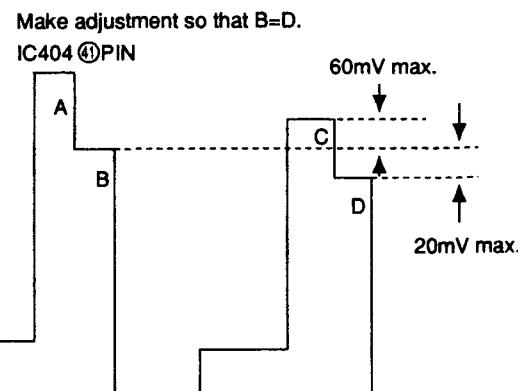

Fig. 5-28
- 2) Connect the probe of an oscilloscope to IC404 ⑪ PIN or TP401.
- 4) Adjust **R-Y LEVEL PAL** so that the peaks of waveforms will be flush with each other as shown on the right. (Fig.5-28)